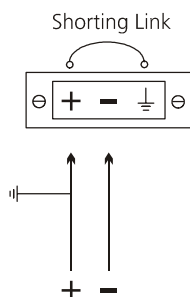

Figure 4-7 Shorting Link
- 1 For installations with +48V earthed a shorting link must be added (see Figure 4-7).